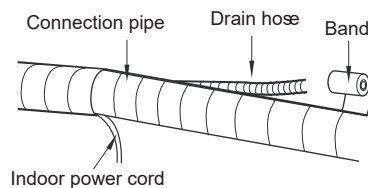

Fig.15
(2) Reserve a certain length of drain hose and power cord for installation when binding them. When binding to a certain degree, separate the indoor power and then separate the drain hose.(As show in Fig.15)
(3) Bind them evenly.
(4) The liquid pipe and gas pipe should be bound separately at the end.